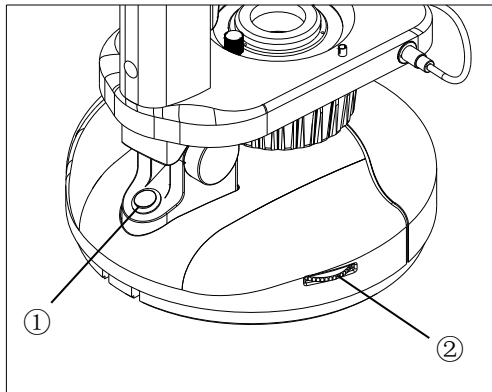

Fig. 9
3.3 Bottom illumination (Fig. 9, 10)